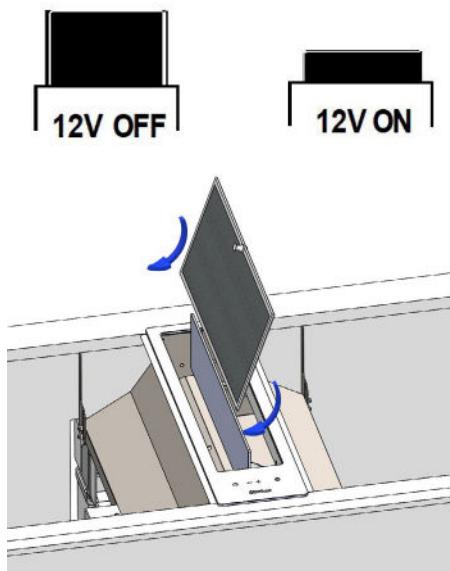

Fig.8
7. Turn on the downdraft (pressing the power  button) and the top panel will open. Install the grease filters as shown in Fig.8.